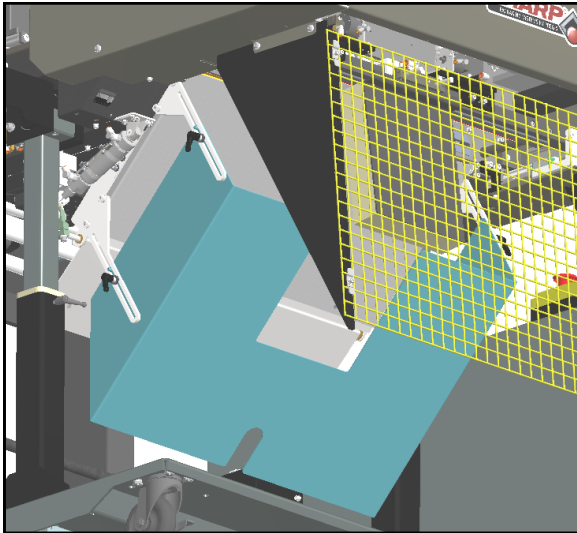

Figure 4-5A. Product Guide Adjustment.
1. Loosen the four handles, two on each side of the Rectangular Product Guide. Figure 4-5A.